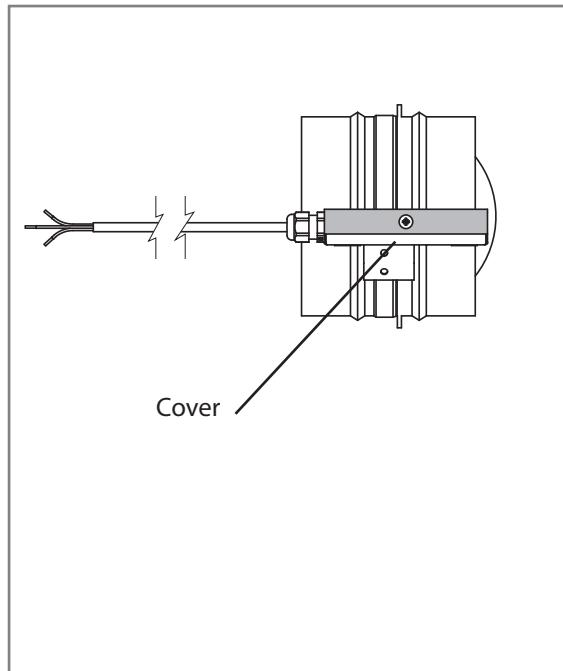

fig 1
1. The damper should be installed horizontally with the control box Cover facing upwards to keep the spring return damper vanes effective at all times and maintain IPX2 ingress protection (fig 1).